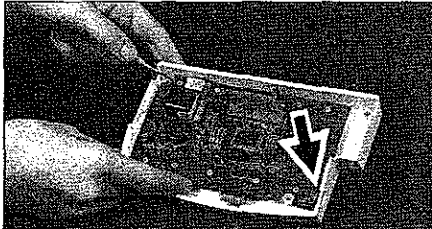

Figure 15
3. Remove the four (4) 4-40x1/4" Phillips pan-head screws which attach the display PCB/LCD assembly to the bezel top. Separate the display PCB/LCD assembly from the bezel top by gently pulling up on the display PCB corners as illustrated in Figure 15. Take care to retain the two o-rings on the temperature jack of the display PCB (arrow in Figure 15).